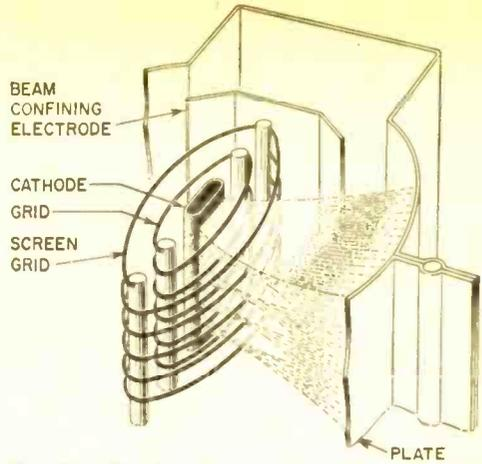

Fig. 8. The beam power tube focuses the electron cloud and aims it at the plate.
**The pentode.** Ultimately, two developments overcome this problem. The *beam power* tube, though a later development, should be covered first, since it is still the tetrode tube. Here the problem was solved by the physical construction shown in figure 8. Two shaped metal plates were placed at the sides of the grid-cathode structure, and connected to the cathode. The main plate receives the beam of electrons, and is curved. The focussing effect of this curvature, and the constricting effect of the beam plates cause the secondary emission ("bouncing electrons") to form a "cloud" between the ends of the beam-forming plates. Once this "cloud" is formed, any more electrons "bouncing" off the plate are repelled by the like charges of the electrons in the "cloud" and return to the plate. This virtually eliminates the "dip" in the curves in figure 7.
Fig. 8. The voltages in both cells shown above are the same. In this case, it is 1.5 volts. In the analogy, the valve diameter is the same for both tanks, but the tank at the left has a greater capacity due to its larger size. While the water pressure will be the same in either case as the valve opening is similar, the larger tank can provide water flow for a greater period. Similarly, the larger cell, while it will produce current for a longer period of time, will produce no additional voltage or pressure at the terminal. Volume is to pressure as current is to capacity.